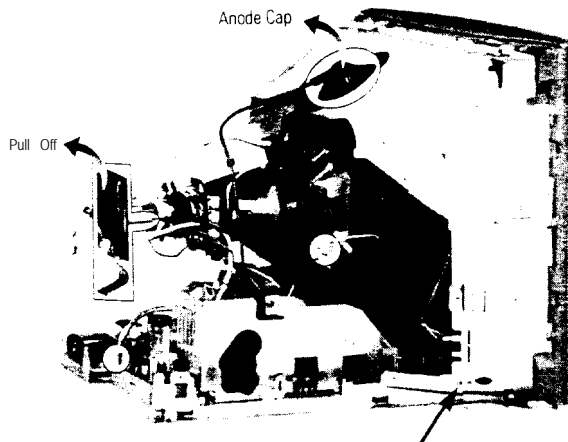

Figure 5-5.
4. Position the Main PCB Ass'y on the front cover (see figure 5-5) and hold it secure with two screws.